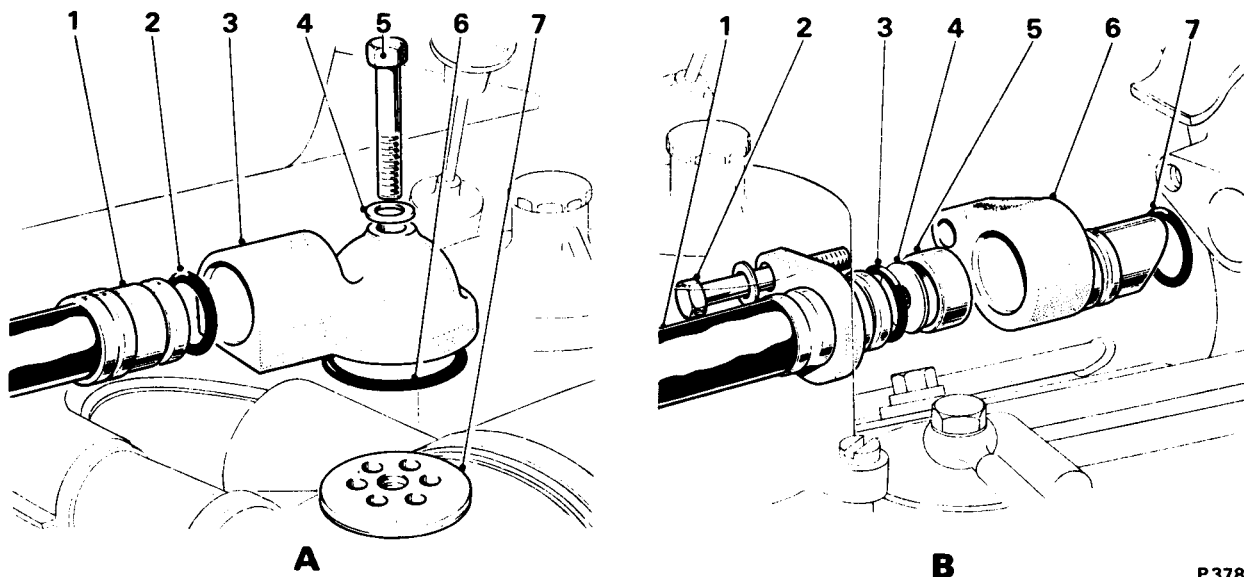

FIG. 11 EXPLODED VIEW OF CRANKCASE EMISSION CONTROL PIPE
Crankcase emissions are controlled by a recirculatory closed breather system (*see Fig. 11*).
4. Wash the flame trap assembly in clean petrol, then dry with a high pressure air line. The flame trap assembly consists of 3 gauzes crimped together as shown in Figure 11.